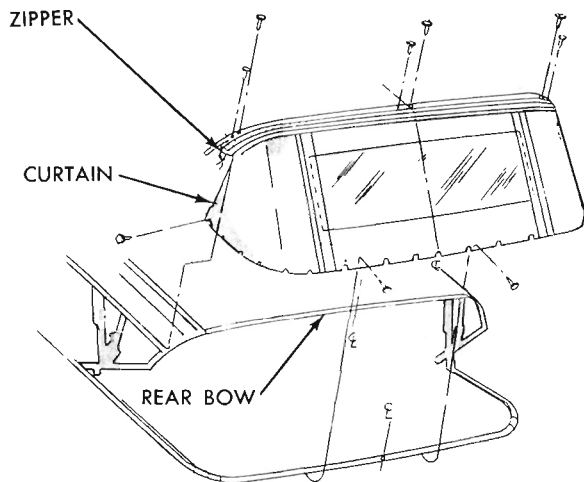

Fig. 14 Rear Curtain Assembly
(9) Remove top and rear curtain material from roof rail (Fig. 14).
(10) Remove sealing tape, staples, drive nails and tacks at the top header.
(11) Mark location of top material bead on ends of cover pads and loosen seals at corners.
(12) Remove front screws from front roof rail weatherstrip retainers and remove locking flaps from between retainer and roof rail.